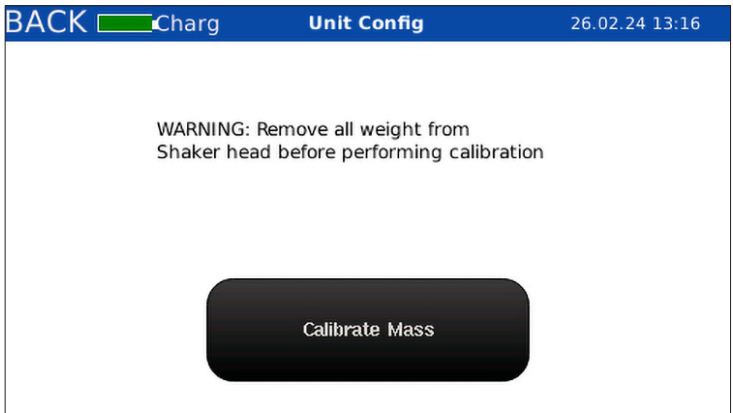

Figure 72. Mass load calibration warning
- 3. Remove the sensor/payload and press the **Calibrate Mass button** (Figure 72).